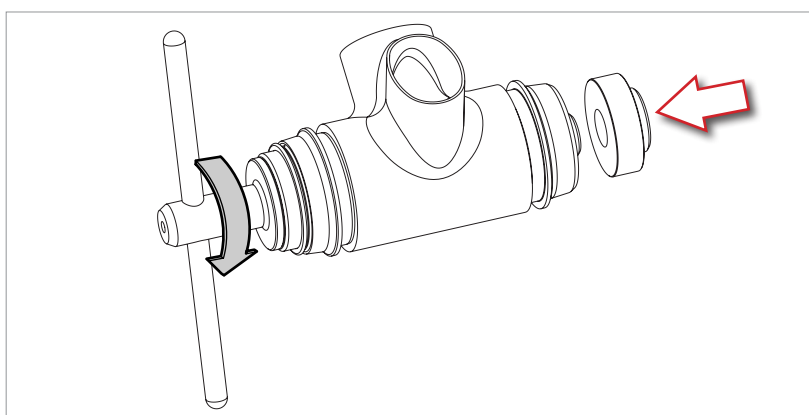

Fig.2
- Tighten the tool UT-BB240 into the left hand bottom bracket cup to bring it into contact with the bottom bracket cup itself (Fig. 2).